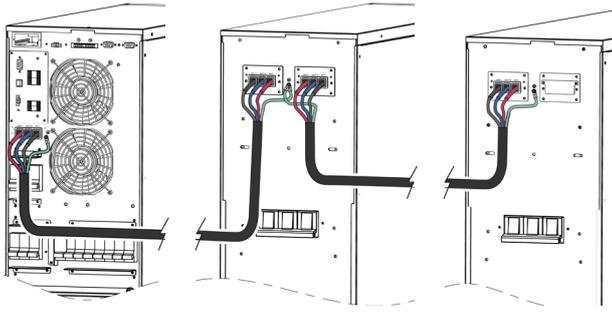

Fig. 31. Connection between the UPS and one or several battery cabinets.
5.2.4. Connection of the unit's battery terminals to those of the battery module (Fig. 31).
- The battery cabinet is connected to the UPS using the cable bundle supplied with each battery cabinet, connecting one end to the UPS terminals and the other to the battery module terminals, observing the polarity indicated on the labelling of each element and in this manual. Observe the connections according to cable colour: a UPS positive colour to a battery cabinet positive; another UPS negative colour to a battery negative; another UPS neutral colour to the battery middle tap (N). Use the green-yellow cable to interconnect the earth connections, see Fig. 31. Fig. 1, Fig. 3 and Fig. 4 show the battery connectors and their respective earths in more detail.
- For extended autonomy where **more than one module or battery cabinet** is supplied, the connection will always be in parallel between them and the unit (see Fig. 31).